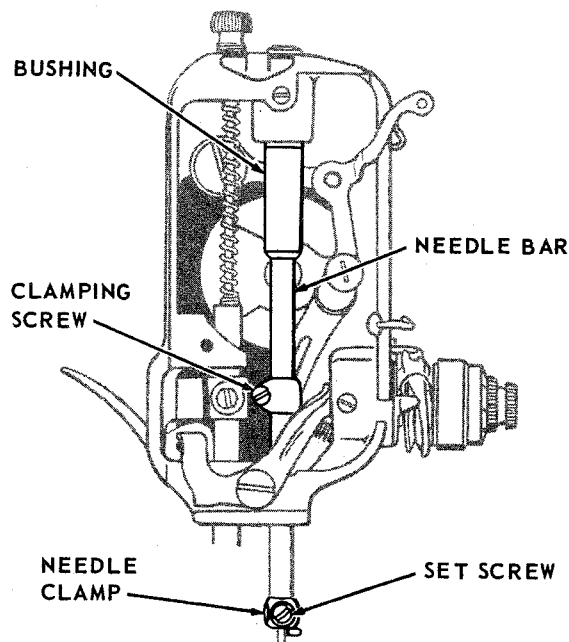

Fig. 27. Removing Needle Bar
2. Loosen set screw in needle clamp as shown in Fig. 27 and remove clamp.
3. Loosen clamping screw, Fig. 27, and lift needle bar up through bushing and out of machine.
1. Insert needle bar down through bushing shown in Fig. 27.